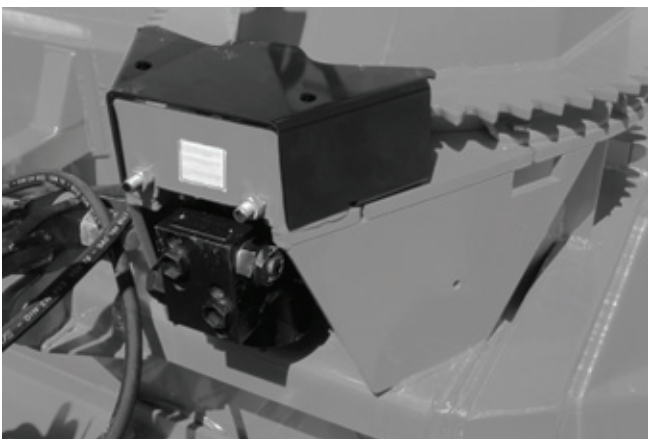

Figure 34
- 5) Install guard. It is important that the cushion valve furnished with your chute rotation kit be installed. Cushion valve has been pre set in plant at 1200 psi. (Fig. 34).